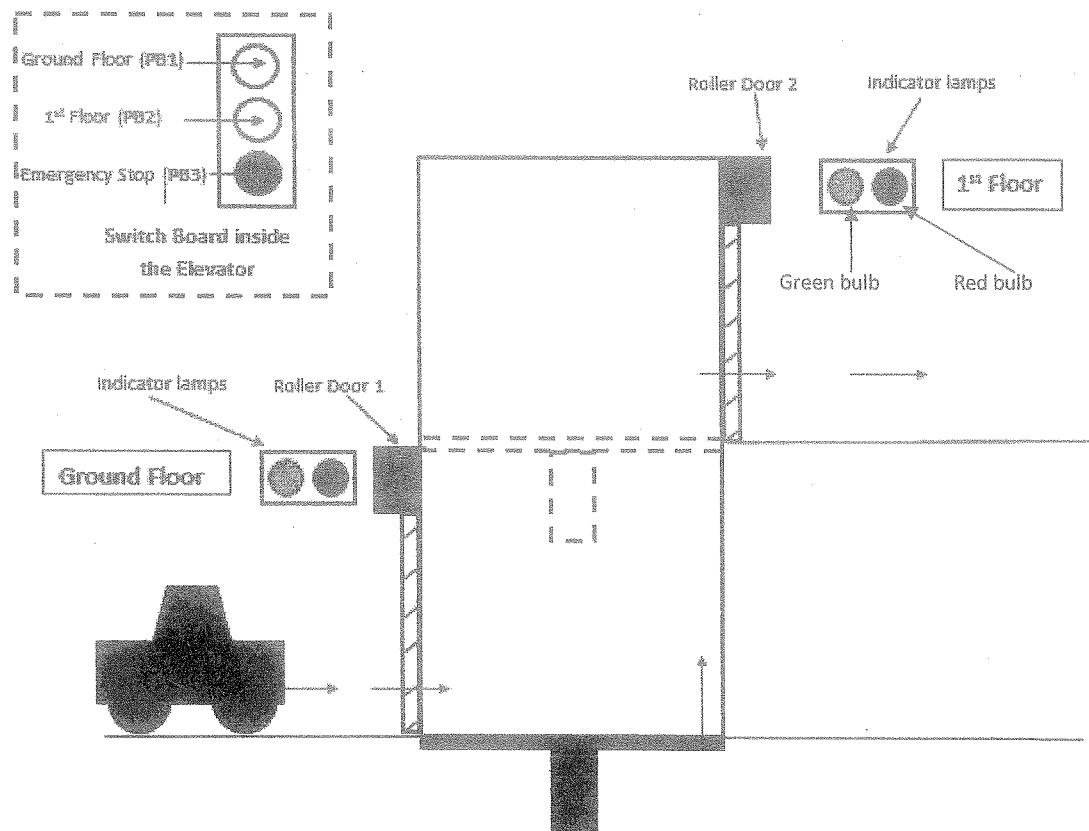

Figure Q5: Car Elevator
- Q5** Figure Q5 shows a car elevator system which can be used to transport a car between the ground floor and the first floor. The elevator system utilizes a hoist which is driven by an electric motor. Two limit switches are placed at each floor level to identify the position of the hoist. There are roller doors at each floor which will get open when a car is detected and get closed only when the car is fully inside the elevator cage. Fully open and fully closed states of each roller door are identified using two limit switches. If a car is detected and has not entered to the elevator cage within 1 minute the respective door should get closed. A switchboard shown as in figure Q5 is installed inside the elevator to select the floor and stop the elevator in an emergency. Assume that all these three buttons are push buttons.